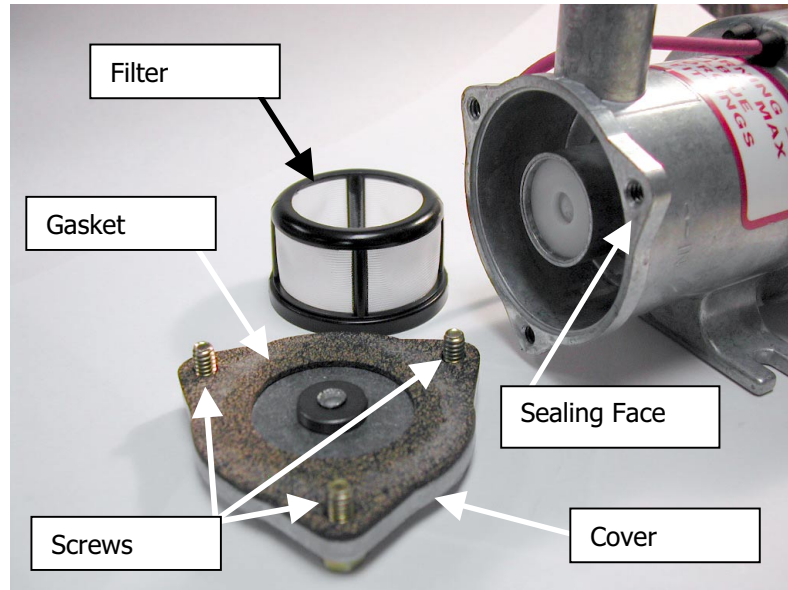

FIGURE 3
- d. Install new filter, gasket, filter cover, and screws. These components are available in Kelly Aerospace Service Kit PN AK91E93. (**NOTE**... filter cover found in kit AK91E93 is fabricated from flat sheet stock and will not have surface relief feature on one side or small magnet on opposite side as depicted in Figure 3). Torque each screw in a sequential, progressive, fashion to 18-20 inch-lbs.